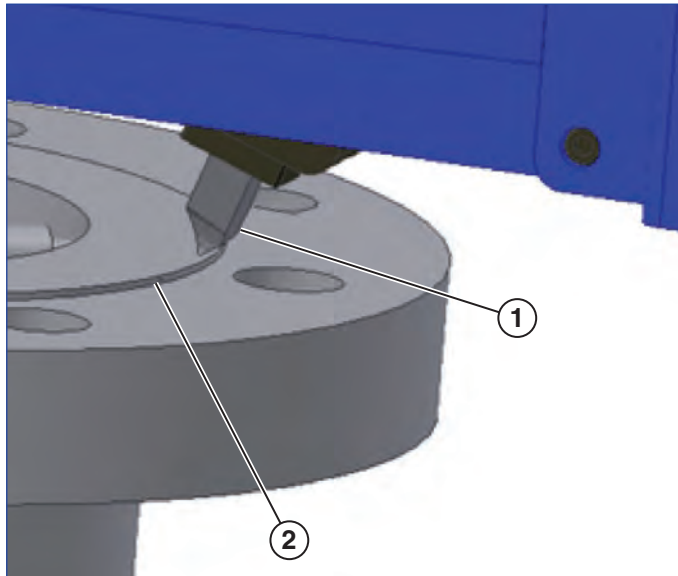

Figure 13
1. Use the ratchet wrench to position the tool bit just about to the OD of the surface to be machined (**see Figure 13**).